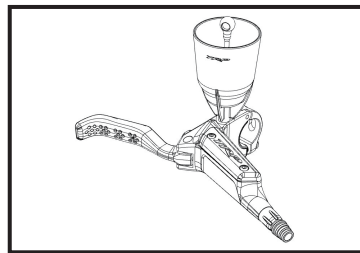

Fig 8
- Use a T15 Torx wrench to remove the bleed screw from the lever and attach the TRP Bleed Funnel. **(Fig 8)** (A collection bottle or bag will also work.)